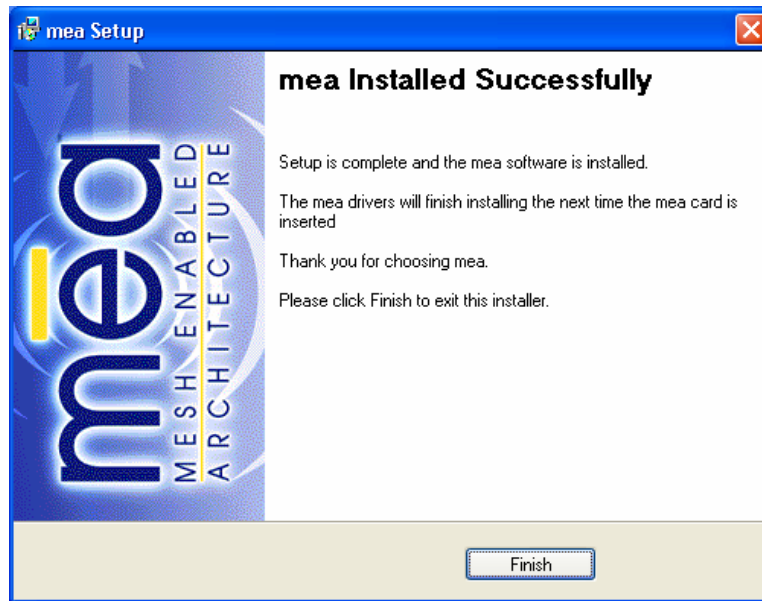

Figure 14. MEA Setup - mea Installed Successfully Dialog Box
20. The *mea Installed Successfully* dialog box will appear as shown in Figure 14. Click on the **Finish** button to exit.